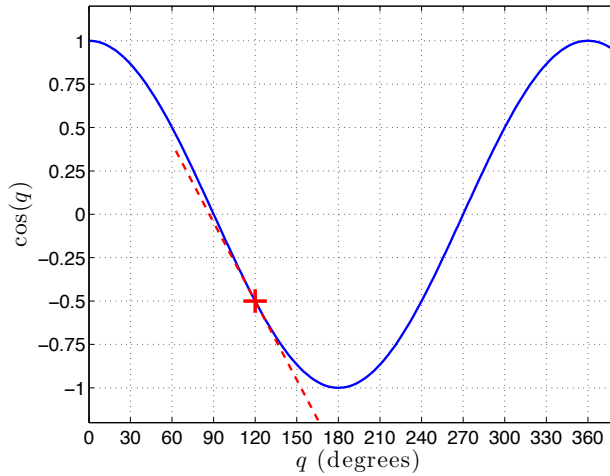

Figure 2: Cosine function and operating point.
- Here,  $b = f(x_{eq})$  is what the function equals at *exactly* the operating point,  $x_{eq}$ . For our example,  $b = \cos\left(\frac{4\pi}{3}\right) = -0.5$ , which is the highlighted operating point (+ symbol) in Fig. 2.
- The slope of  $f(x)$  evaluated at  $x_{eq}$  gives us  $m$ , i.e.,  $m = f'(x_{eq}) = \left. \frac{df}{dx} \right|_{x_{eq}}$ . For our pendulum example,  $m = \left. \frac{d}{dx} \cos(x) \right|_{x_{eq}} = -\sin(x_{eq})$ . Therefore,  $m = -\sin\left(\frac{4\pi}{3}\right) = \frac{-1}{2}\sqrt{3} \approx -0.866$ . The slope is illustrated by the dashed line in Fig. 2.
- In  $\tilde{A}$ , some rows will simply have zeros and ones, again analogous to Eq. 13. The other rows will contain partial derivatives. Thinking in terms of some nonlinear matrix equations analogous to “ $F = ma$ ”, the matrix  $M$  includes effective mass terms (inertia terms, to be more precise) that are multiplied by accelerations ( $\ddot{q}$  terms). Within the “ $F$ ” part,  $\tilde{A}$  includes slope values, similar to the illustration from Fig. 2. Once you have  $M\ddot{x}$  on one side of your matrix equations, take partial derivatives of all the stuff on the other side of the equation (the “ $F$ ” part), and evaluate these partial derivatives at the operating point,  $x_{eq}$ . Plug in the results as appropriate within  $\tilde{A}$ , just as we did for Eqs. 10 and 13.